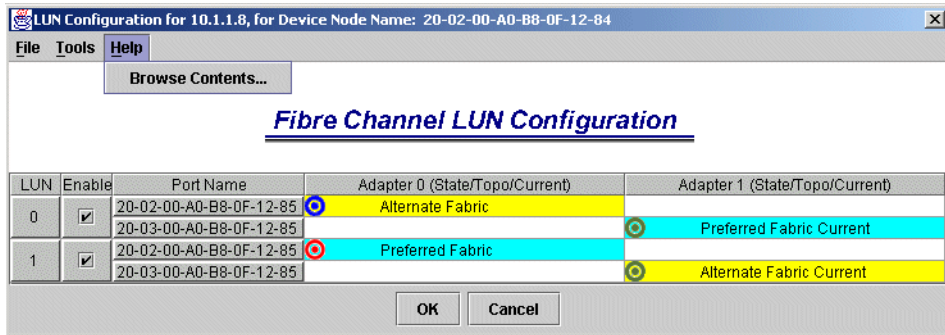

Figure 5-12 FASTT MSJ LUN configuration
8. To enable load balancing, highlight the storage subsystem represented by the node name and click **LUNs -> Configure LUNs** from the menu. Then the LUN configuration window appears, as shown in Figure 5-12